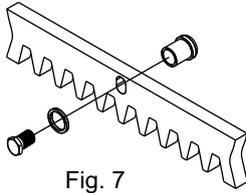

Fig. 7
5.2. Fit the bolts to each section of rack using the provided blocking screw. Make sure the bolts are placed in the upper part of the holes (See Fig. 7);